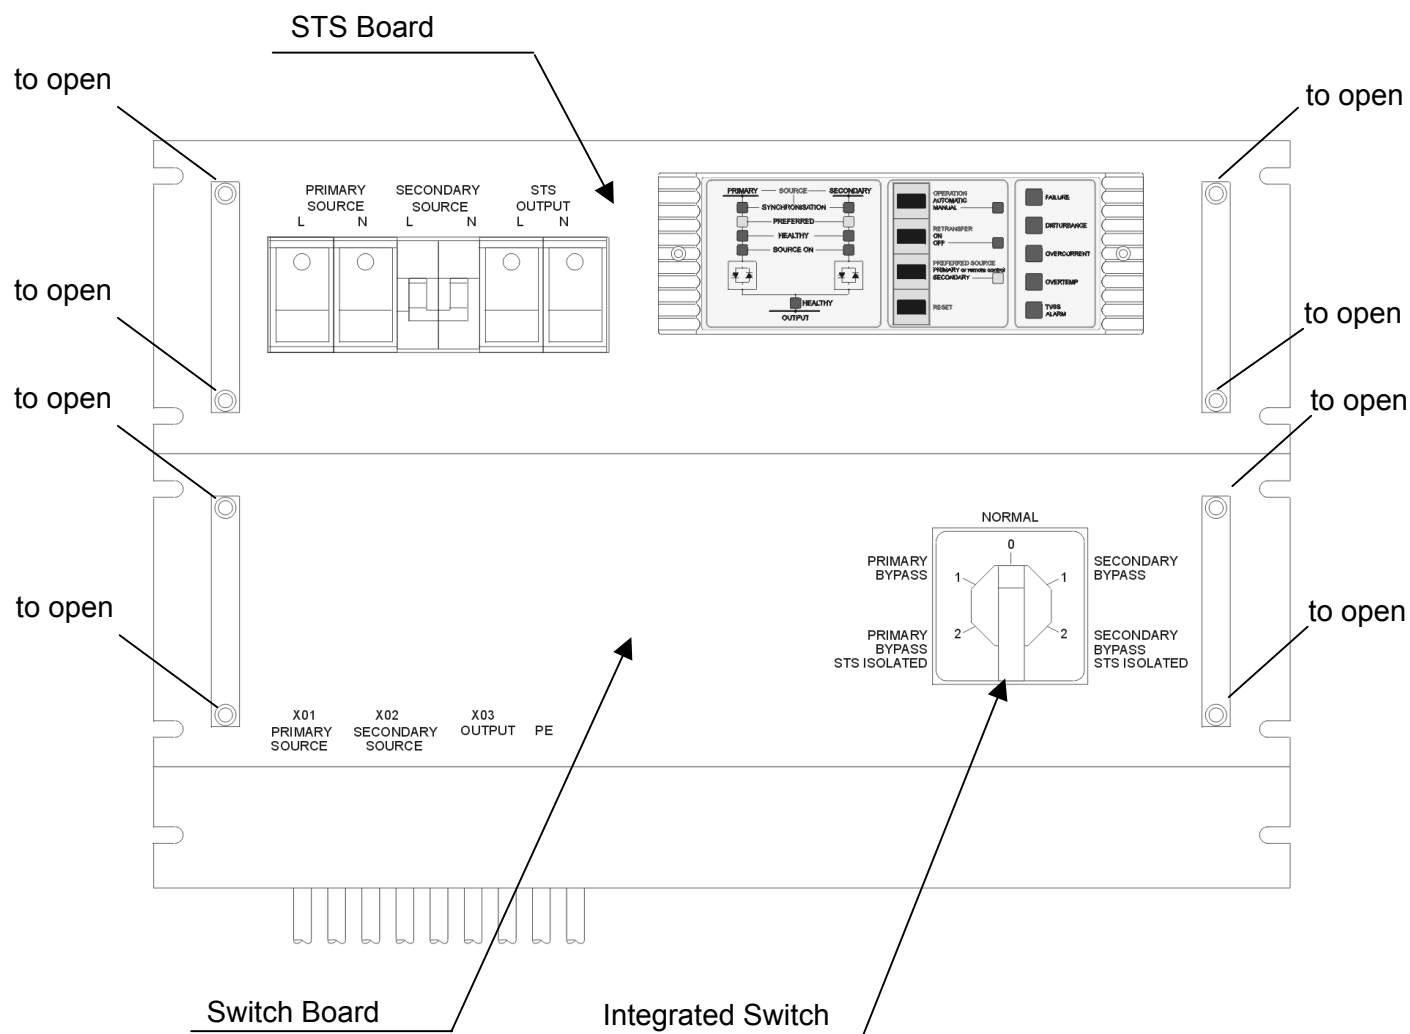

Figure 3. Front panel view
3. Unscrew 4 screws from the Switch Board (figure 3), and take out the front cover plate.
4. Unscrew 4 screws from STS Board (figure 3), disconnect the Control Panel (ribbon cable inside STS Board) and take out the front cover plate.
3. Unscrew 4 screws from the STS Board (figure 3), disconnect the Control Panel (ribbon cable inside STS Board) and take out the front cover plate of the STS Board.